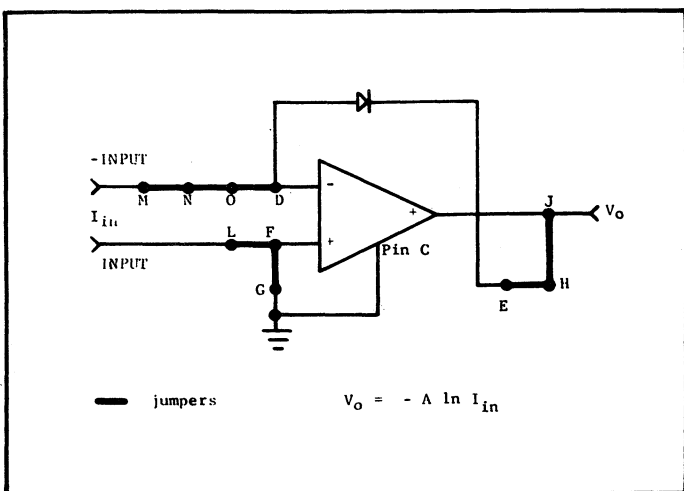

FIGURE 10. Logarithmic Current Amplifier
5. Logarithmic Current Amplifier. In this mode a semiconductor junction (either a diode or transistor) is connected in the feedback path as shown in Figure 10. The output voltage is proportional to the logarithm of the input current where $V_o = -A \times \text{logarithm}(I)$. The value of A is determined by the particular characteristics of the diode junction. When using only one diode the amplifier responds to only one polarity of current. To measure positive and negative currents two diodes must be used wired in parallel and conducting in opposite directions. By adding two or more diodes in series the output voltage may be increased in direct proportion. Fractional feedback may be used to increase A where $V_o = -A [(R_1 + R_2)/2 \ln(I)]$.